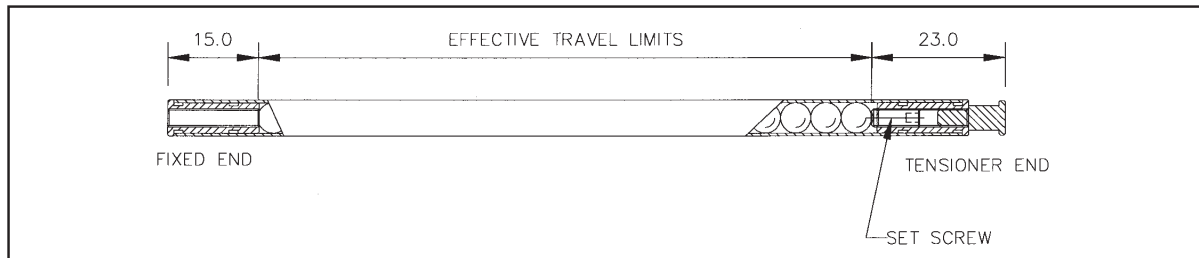

Figure 6.7 - The MHG Scale
- (A) Erroneous readings will occur if the MHG Reader Head is allowed to travel beyond Effective Travel Limits. (Refer to Figure 6.7)
- (B) The pre-load on the balls are factory set via the set screw at the tensioner end. Do not tamper with or adjust the set screw as this will alter the calibration and accuracy specification of the scale and void the warranty.
- (C) When mounting scales in the vertical plane the tensioner end should be positioned at the top.